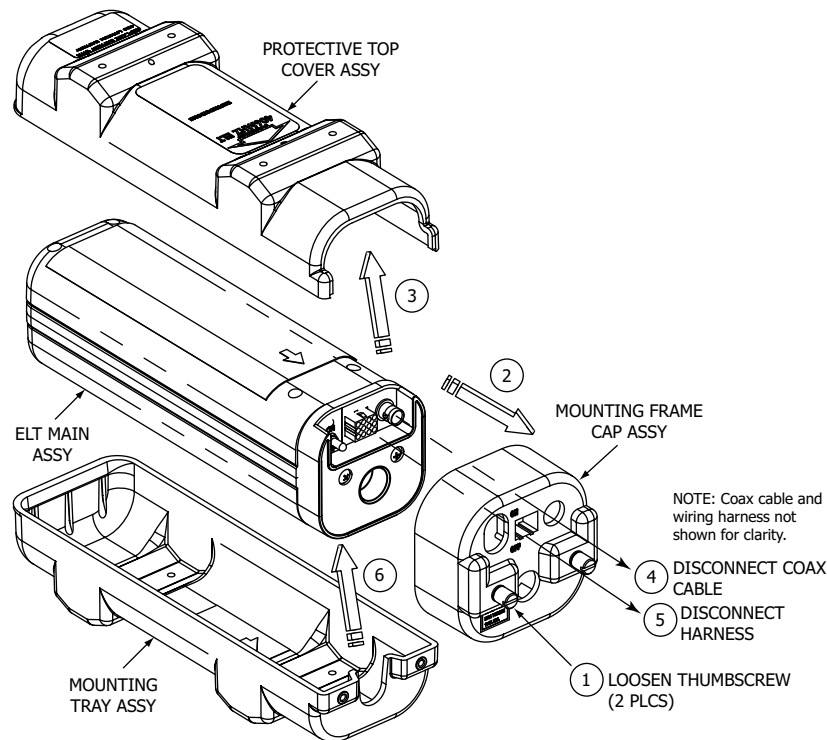

Figure 12. ELT Removal Sequence
- (1) See "Figure 12. ELT Removal Sequence".